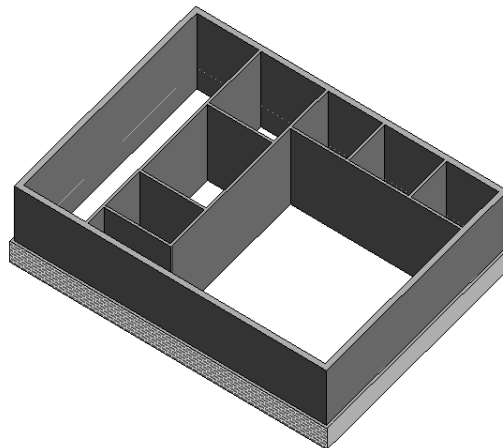

Figure 3-87 3D view of a building with the shaded edges
10. Now, choose the **Visual Style** button from the **View Control Bar**; a flyout is displayed. Choose the **Shaded** option from this flyout; the 3D view is displayed with shading and with edges visible, as shown in Figure 3-87.